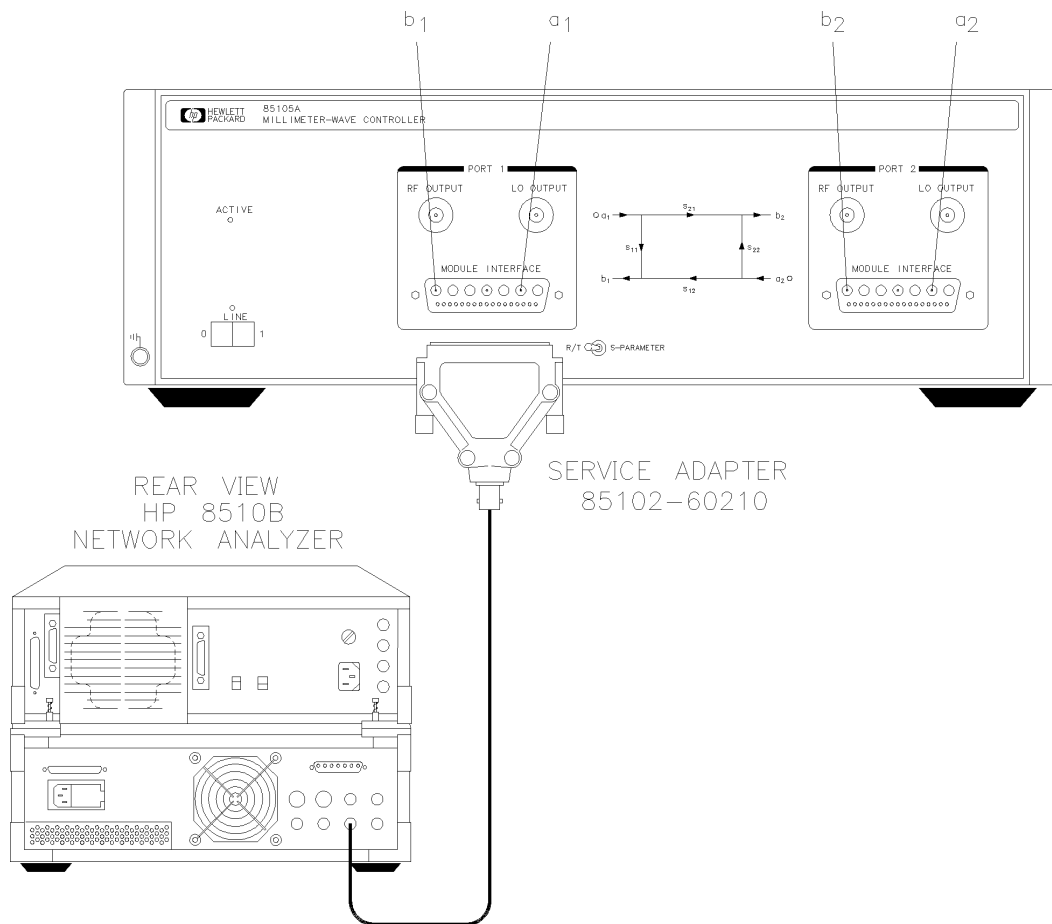

Figure 6-23 IF Inputs
2. A 20 MHz signal is routed from the HP 85102 through the service adapter and injected into the a1 and b1 inputs of the module interface, as shown in Figure 6-23 on page 6-40. Check the a1 and b1 user parameters for port 1. The traces should be flat lines approximately - 5 dB across the band (on the HP 8510 CRT).